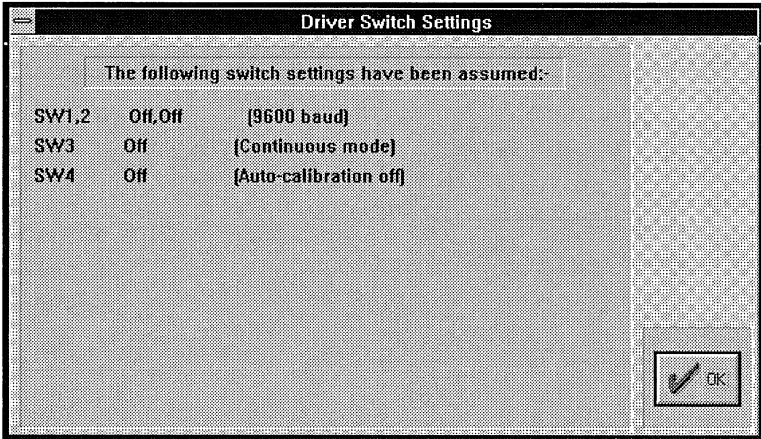

fig. A-6
9. When the Driver Switch Settings screen appears (fig. A-6), click OK.